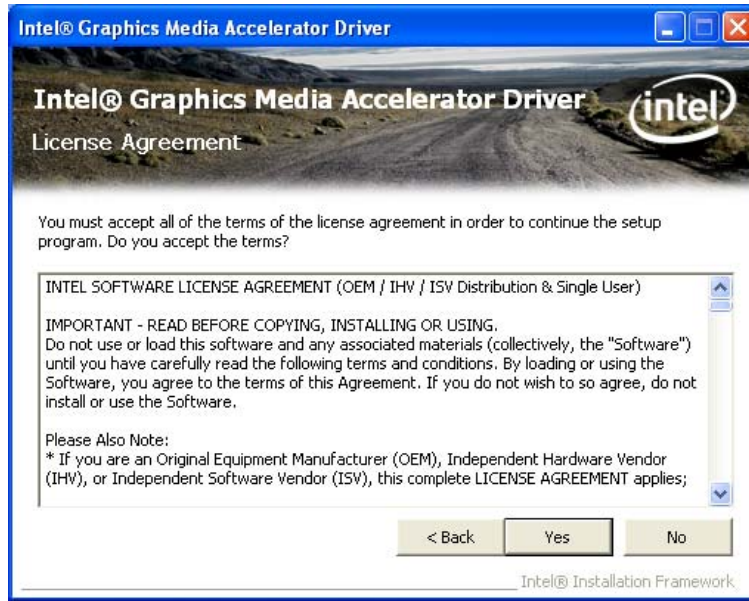

Figure 6-13: VGA Driver License Agreement
- Step 8:** The license agreement in Figure 6-13 appears.